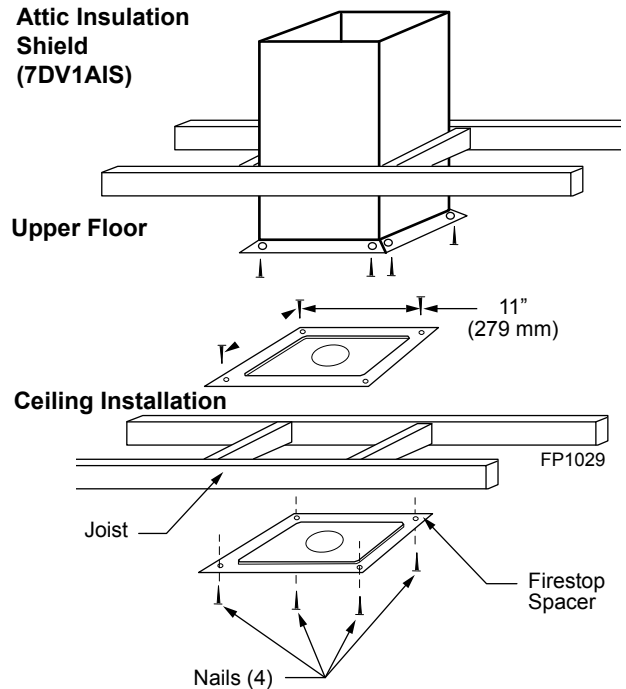

Figure 26 - Place Firestop Spacer(s) and Secure
6. Place firestop(s) or Attic Insulation Shield into position and secure. *Figure 26*